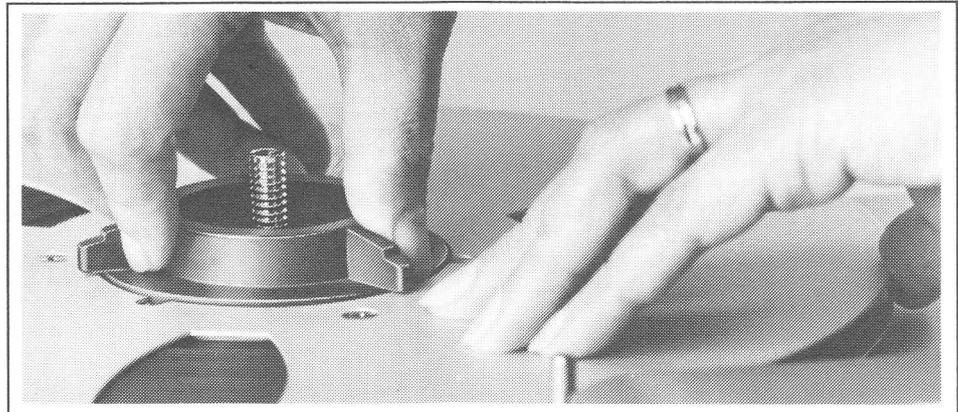

Fig. 2.4.5
**[64] CH1...CH4** Monitor selection key (see pull-out page Fig. 2.4.5/3).